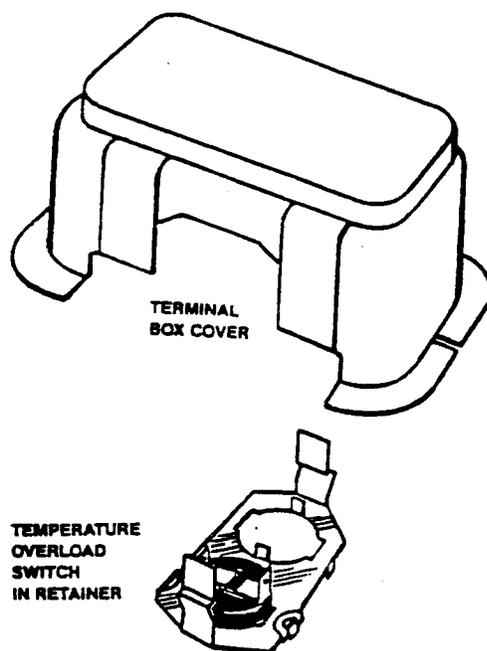

Fig. 6 Temperature Overload Switch
3. Lift off the cover of the terminal box on top of the compressor. See Fig. 6.